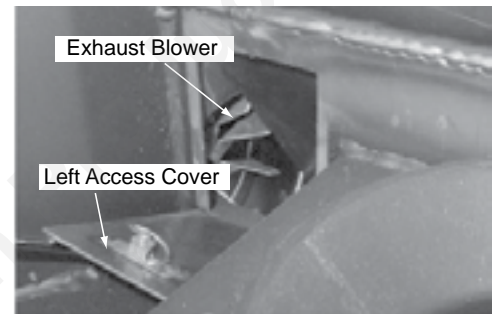

Figure 3.3
4. Clean the exhaust blower blades while the access cover on the left side is still removed. **Figure 3.3.**